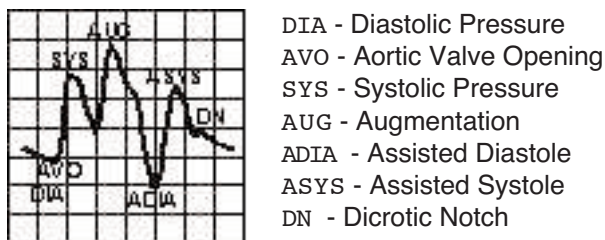
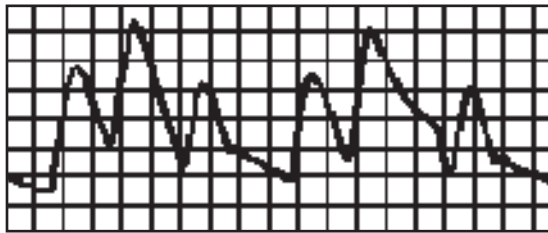

Figure 4.2: The AP waveform with Proper Conventional timing
Figure 4.3: The AP waveform with Proper Real time timing
Conventional "Proper timing": requires balloon inflation to occur immediately after Aortic Valve Closure (AVC) at the onset of diastole, and deflation to occur immediately before Aortic Valve Opening (AVO) at the onset of systole. As explained in Section 1.1, this helps to balance the patient's myocardial oxygen supply and demand. If inflation and deflation are not timed properly, the benefit to the patient is reduced. With Conventional timing inflation produces an increase in the diastolic pressure, called augmentation (AUG). Deflation reduces the pressure in the aorta at the end of diastole (ADIA) and reduces the systolic pressure of the following or assisted beat (ASYS). Proper timing is achieved when both inflation and deflation produce these changes. Figure 4.2 shows the result of proper conventional timing on the AP waveform.
Real time timing: requires balloon inflation to occur simultaneously with AVC and deflation to occur at the R wave or during Isovolumetric contraction (IVC). This timing method is often used during arrhythmia since it allows the length of balloon inflation to more closely match the length of diastole. R wave deflation may result in the assisted DIA of the patient being higher than the DIA, whereas conventional deflation results in a lower assisted DIA as compared to the DIA. Figure 4.2 shows the result of proper conventional timing on the AP waveform. Figure 4.3 shows the result of proper Real time timing on the AP waveform.
- Compare the AP waveform to Figure 4.2. Note the V-shaped curve between the SYS and AUG peaks. AUG should be greater than SYS.
- Compare the AP waveform to that in Figure 4.2, 4.3 or 4.4. ASYS should be less than SYS, indicating the effectiveness of counterpulsation. Assisted DIA should be less than DIA. *If you have set the deflation point beyond 100% of the R-R interval, a Class 3 Alarm will appear on the display both numerically and by a change in the timing bar color to yellow.*
- Compare the AP waveform with those in Figures 4.5a-d to ensure that you have achieved optimum timing. *If your AP waveform does not resemble that in Figure 4.2 or 4-3, repeat steps above to achieve optimum timing.*